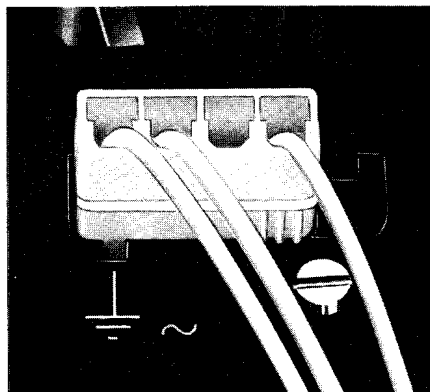

Fig. 3
- B. No. 209 458; AMP-No. 42859/1 (Fig. 3) for 4-pole power supply plug